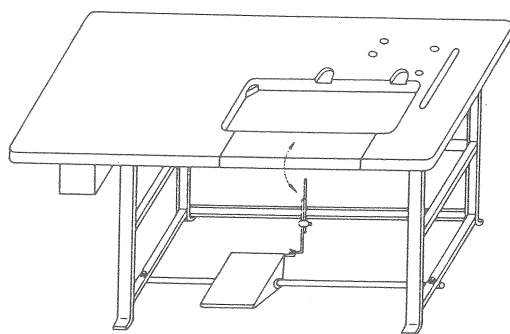

Fig. 3
B. Open type table (Fig. 3)
Figure 3 represents a sewing type table so as to threading without tilting machine head.